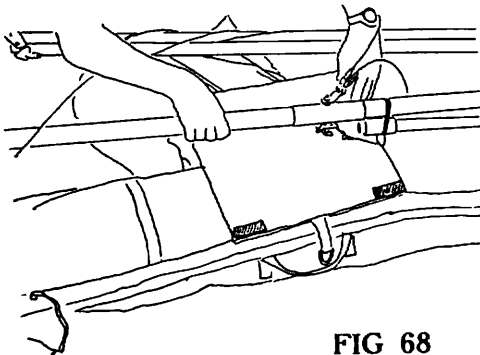

FIG 68
12) Insert the pad underneath the keel, (Fig 68) and between the keel and control bar and secure the velcro